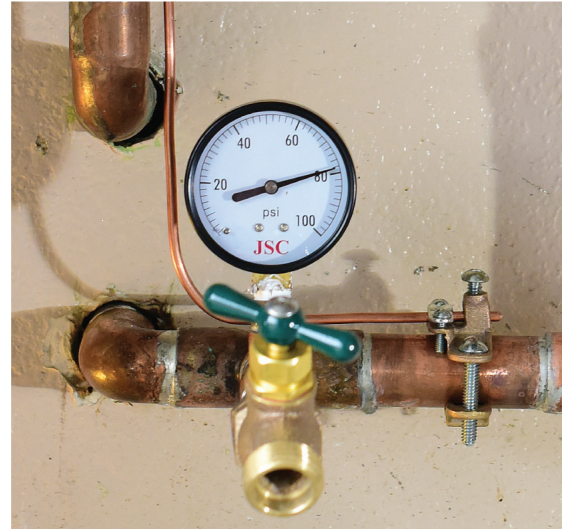

Figure 8 - Copper wire clamped to incoming water main
2. Clamp copper wire to the incoming water main [See Figure 8]. Then clamp the other end of the copper wire to water pipe entering the house. This will ensure proper grounding.